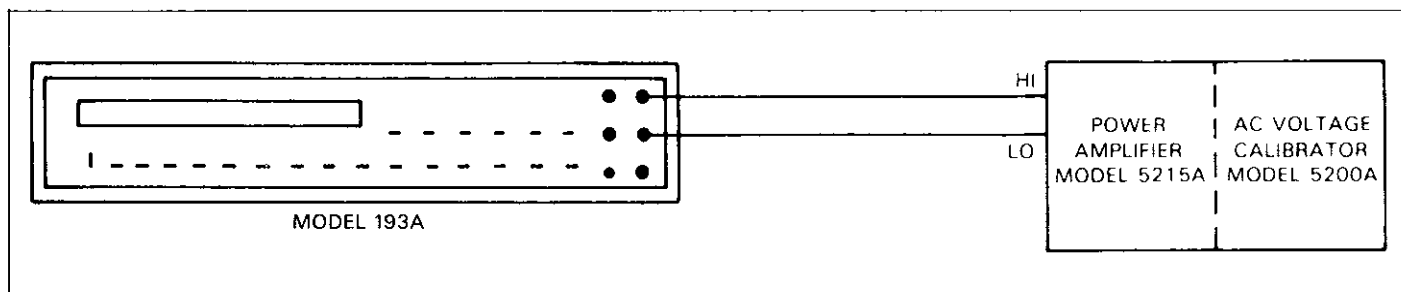

Figure 6-8. TRMS AC Volts Calibration Configuration
4. Connect the AC calibrator as shown in Figure 6-8.
- A. With the ACV function, autorange and 5½d resolution selected, connect the AC calibrator to the instrument as shown in Figure 6-8.
- B. With the ACV function and 5½d resolution selected, connect the AC calibrator to the instrument as shown in Figure 6-8.